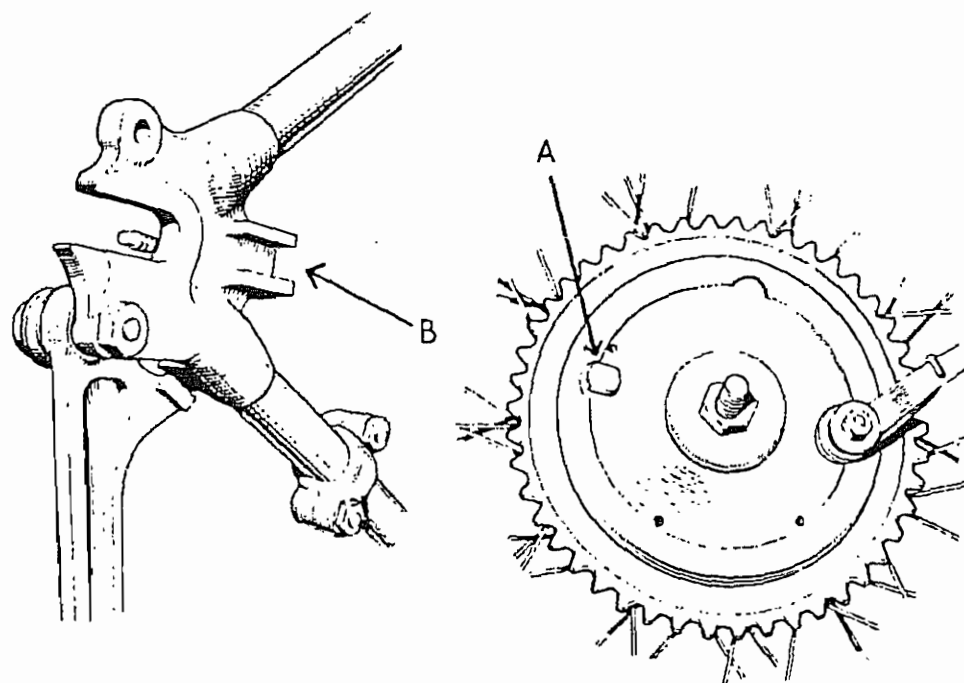

Fig. 47. Stud "A" on Rear Brake Anchor Plate which must be located in Rear Fork Channel "B".
**Positioning the Wheel.** Lift the rear wheel into the frame with the brake drum to the left hand side. Engage the anchor plate lug "A", into the locating channel "B", on the inside of the left hand fork lug (See Fig. 47). Push the wheel up to the chain adjuster screws and tighten up the spindle nuts.